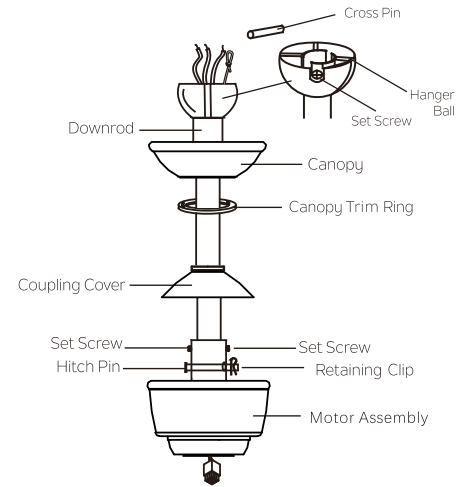

Fig. 9
**Step 8.** Slip the coupling cover, canopy trim ring and canopy onto the downrod. (Fig. 9)
Thread the hanger ball onto the downrod, insert the cross pin through the downrod and tighten. Now tighten the set screw. (Fig. 9)